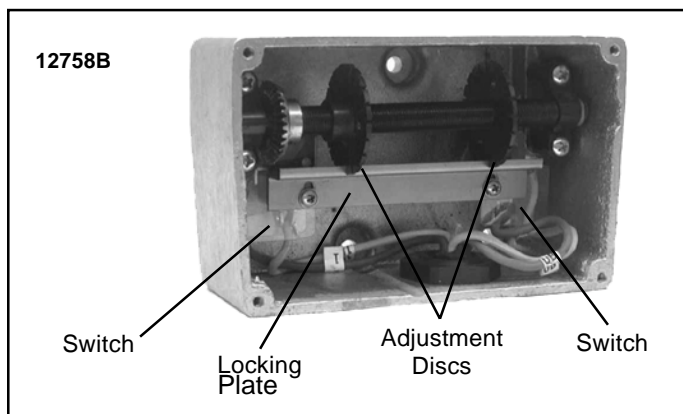

Figure 7-2. Screw-Type Limit Switch Adjustment
**7-4. SCREW-TYPE LIMIT SWITCH.** This limit switch has a rotary screw driven by a gear reduction which is coupled to the end of the drum shaft. Adjustment discs operate the contacts of separate switches; one for the hoisting circuit and one for the lowering circuit. The switch assembly must be wired in accordance with the appropriate wiring diagram, which is packaged with hoist. Adjustment of this screw-type limit switch is accomplished as follows: (Refer to Figure 7-2).